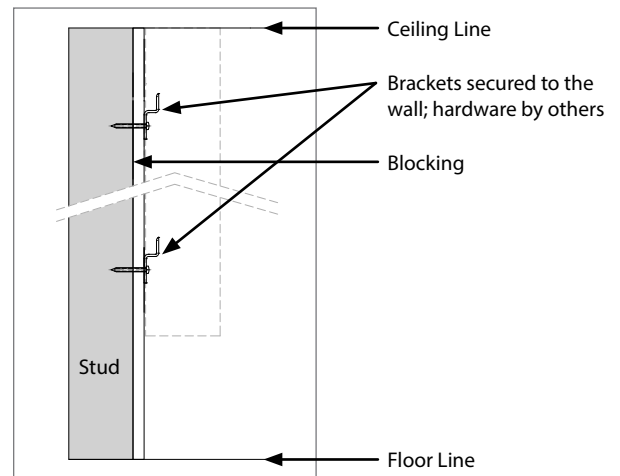

Figure 2: Setup
3. Mount the brackets to the wall studs or blocking using screws, as per **setup** diagram (**Figure 2**). Use number of screws listed below: